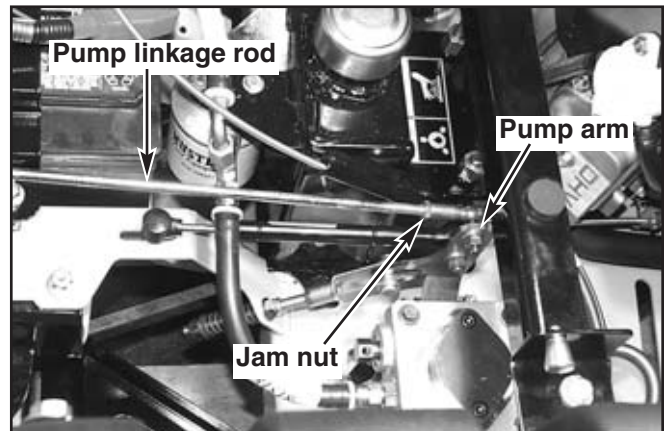

Figure 5-2
lever and pump arms. Fig. 5-2
4. If wheel(s) are rotating forward, loosen the jam nuts on the pump linkage rods and rotate the rod to lengthen the steering control linkage until the wheel(s) come to a stop. Fig. 5-2
5. If wheel(s) are rotating in reverse then loosen the jam nuts on the pump linkage rods and rotate the rod to shorten the steering control linkage until the wheel(s) come to a stop. Fig. 5-2